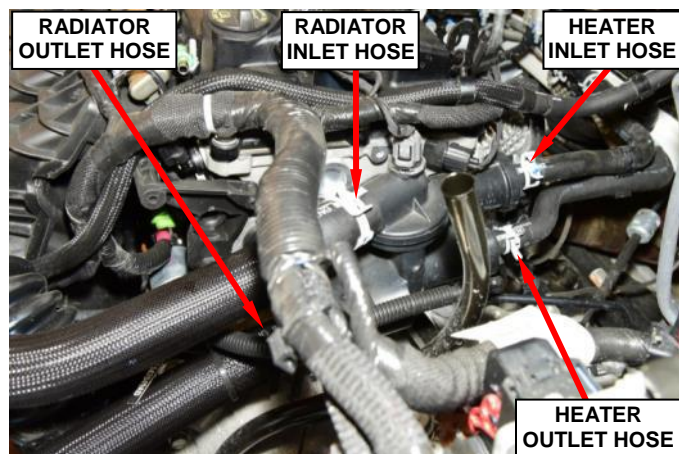

Figure 74 – Coolant Adapter
31. Disconnect the radiator inlet and outlet hoses and heater inlet and outlet hoses from the coolant adapter (Figure 74).